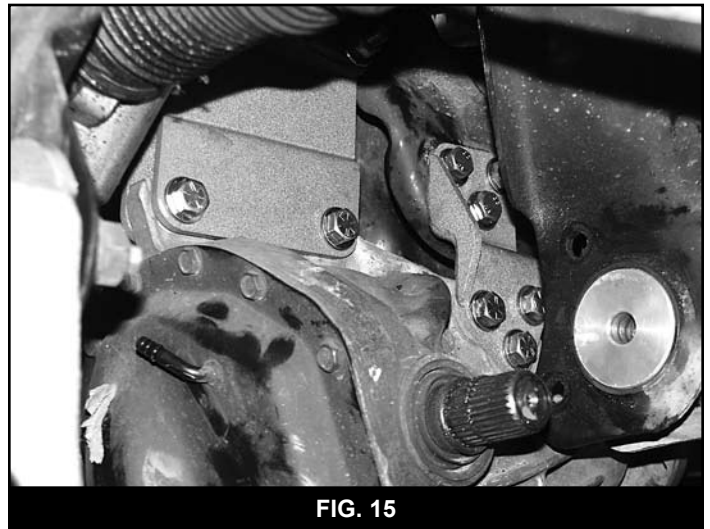
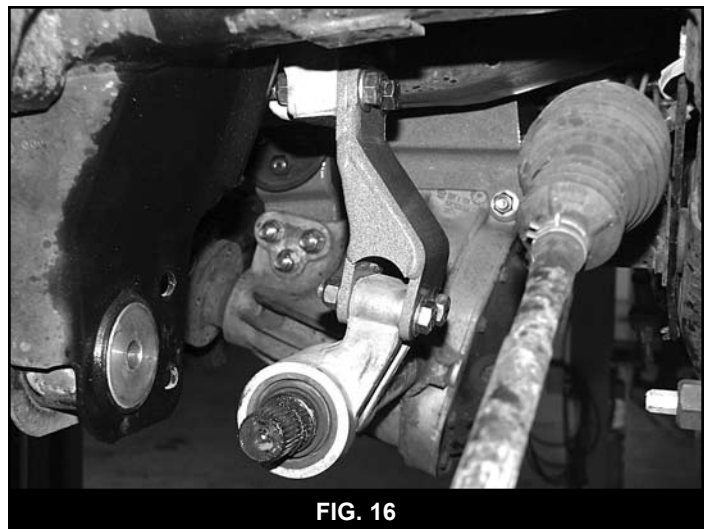

FIG. 15
FIG. 16
37. Attach the differential to the driver's side front and rear brackets (Fig 15) with  $\frac{1}{2}$ " x 2-1/2" bolts, nuts and washers (BP #617). Attach the passenger's side to the differential (Fig 16) with  $\frac{1}{2}$ " x 2-3/4" bolts, nuts and  $\frac{1}{2}$ " SAE washers (BP #617). Leave all differential hardware loose.